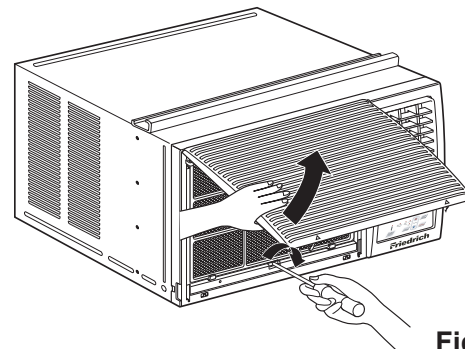

Fig. 11
14. Pull down the inlet grille and secure it with a Type A screw ① through the front grille. (Fig. 11)